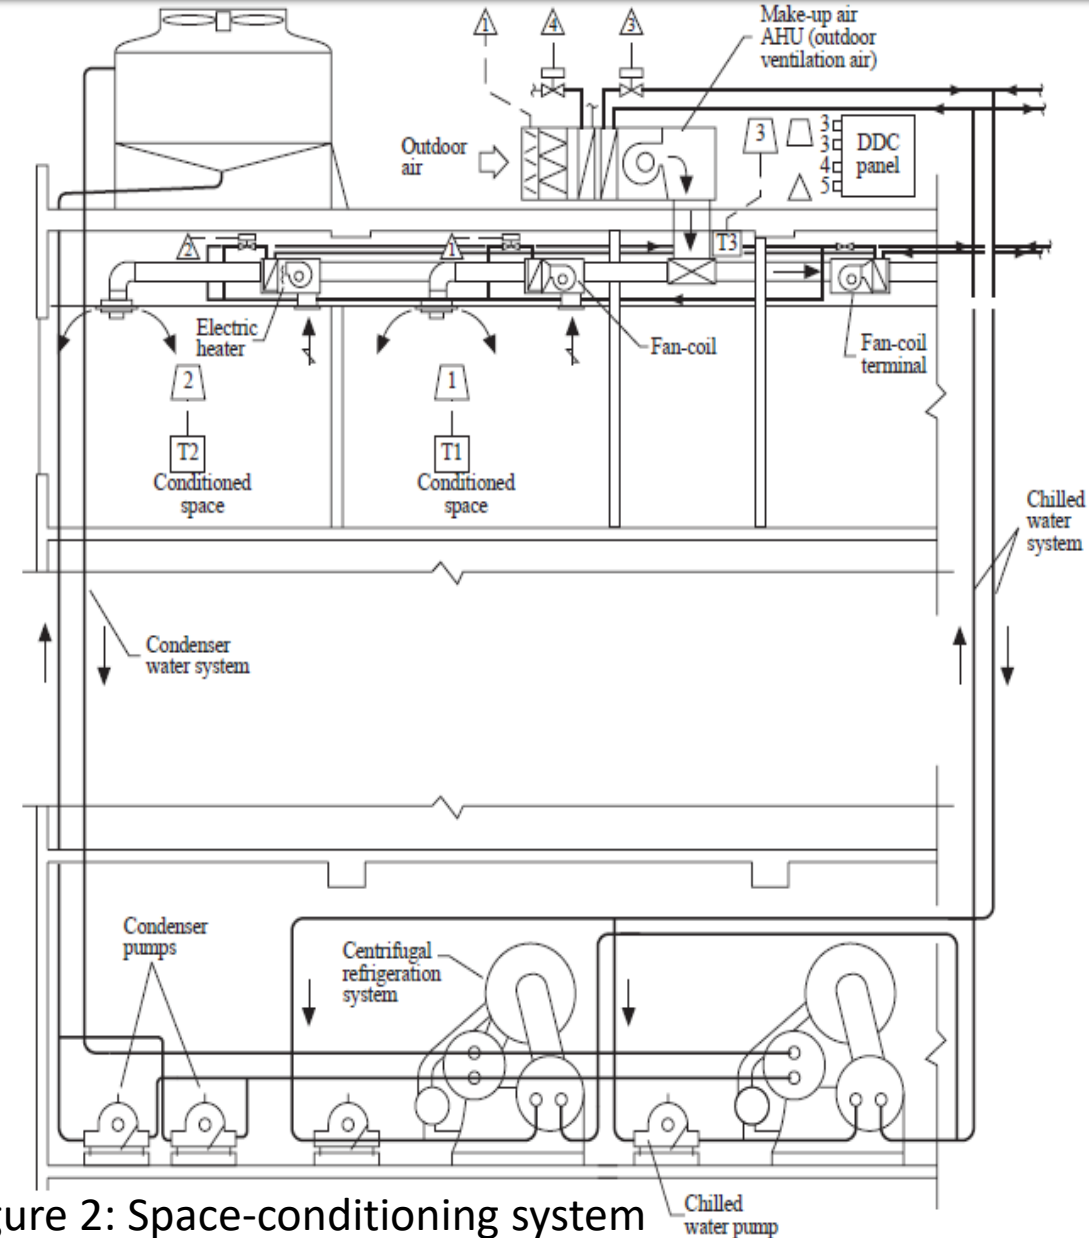

Figure 2: Space-conditioning system
- Space-Conditioning Systems or Space Systems – Fig. 2